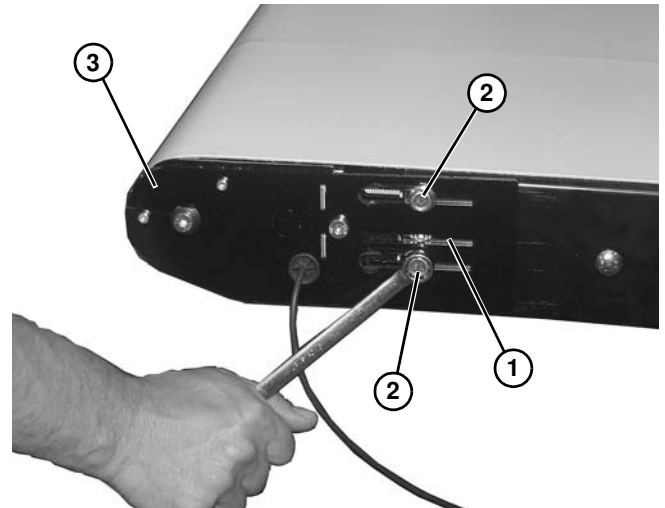

Figure 97
1. On tension end of the conveyor, identified by the pinion access slot (**Figure 97, item 1**), loosen the two tail screws (**Figure 97, item 2**) on both sides of the conveyor securing push head plate assembly (**Figure 97, item 3**).